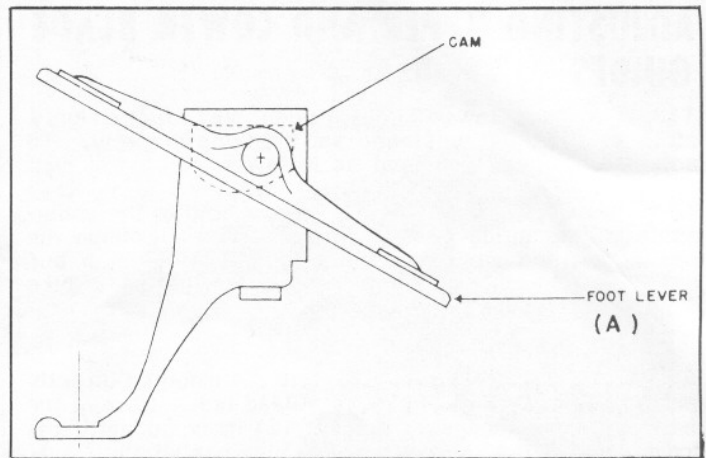

Fig. 7.
- Assemble foot lever (A) Fig. 7, to the end of the shaft using the pin supplied. Foot lever is assembled to each shaft in the same manner, as shown in Fig. 7.